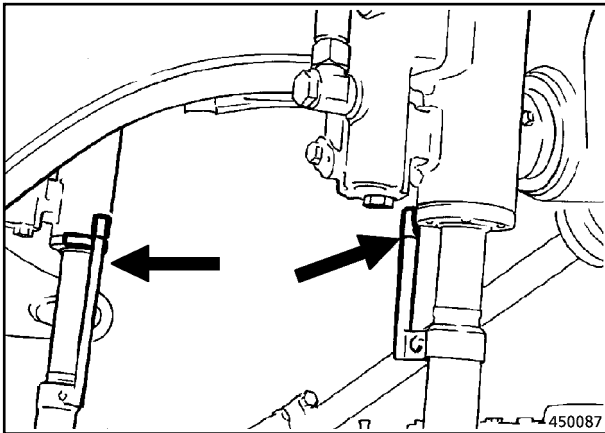

Fig. 5
- Raise the blade on both sides until the mark on the respective pointer (Fig. 5) is at the same level as the mark on the lifting cylinder tube.